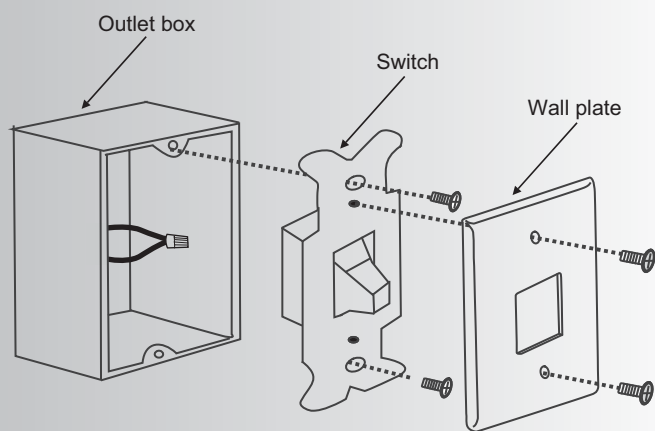

Fig. 26
Step 1. Remove the existing wall plate and the old switch from the wall outlet box. Wire nut the **BLACK** leads (hot) together and push back inside the outlet box. (Fig. 26)